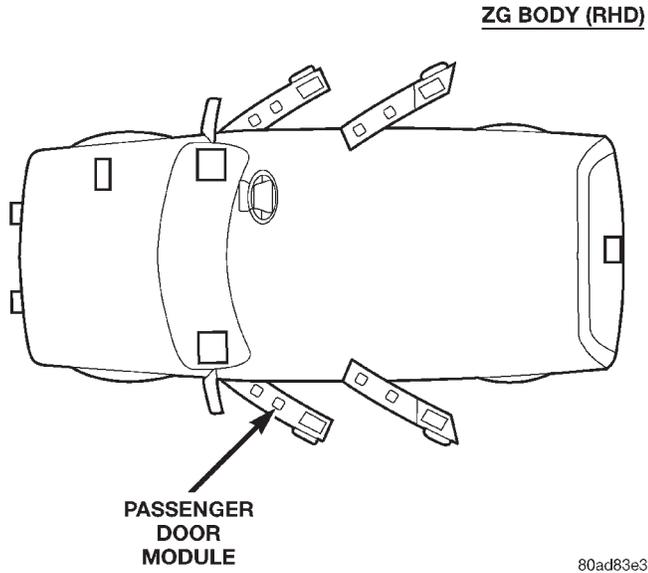
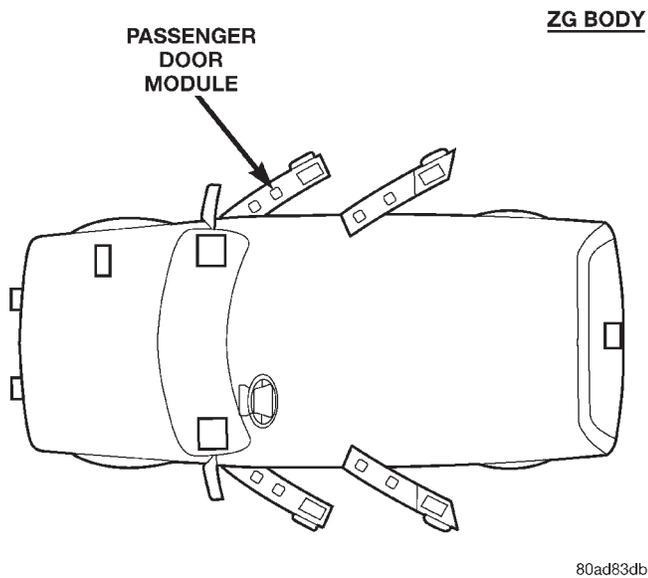

Fig. 2 Immobilizer Receiver Location—RHD Vehicles
Fig. 3 Immobilizer Receiver Location—LHD Vehicles
(1) Disconnect and isolate the battery negative cable.
(2) Remove the left front door trim panel for RHD vehicles (Fig. 2) or the right front door trim panel for LHD vehicles (Fig. 3). Refer to Group 23—Body in this manual for trim panel removal procedure.
(3) Remove the receiver.
(4) Unplug the immobilizer receiver from the wire harness connector.
(5) Reverse the removal procedures to install.
(6) Refer to the Vehicle Theft Security System menu item on the DRB scan tool for the procedures